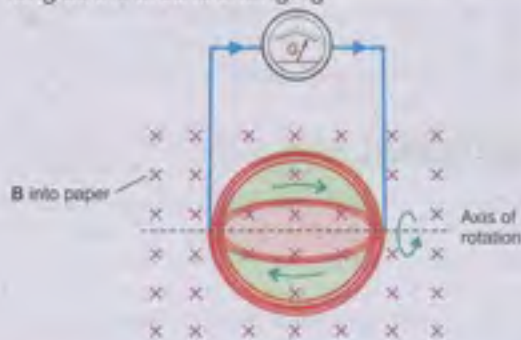

Fig. 15.4
3. An induced current can also be generated when a coil of constant area is rotated in a constant magnetic field. Here, also, the magnetic flux through the coil changes (Fig. 15.4). This is the basic principle used in electric generators.